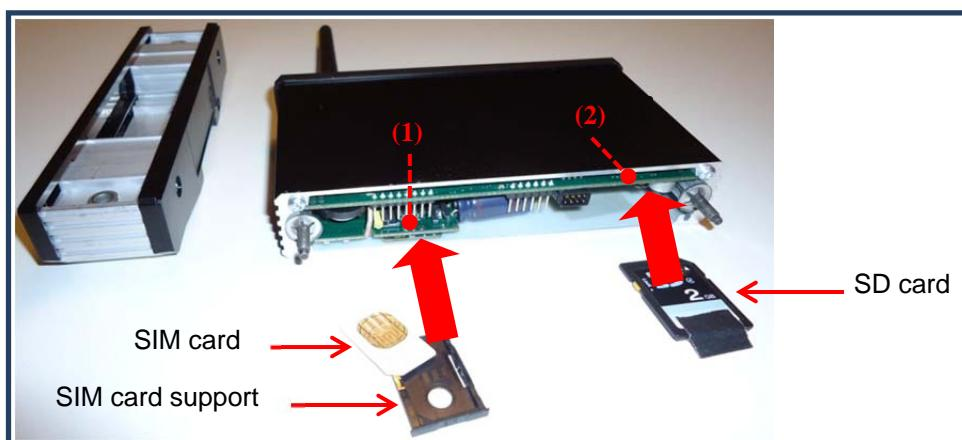

Figure 1
- 3) Insert the SD card containing the configuration file in (2) (figure 1), press it as far as possible, so that it does not exceed the Module.
The SD card is difficult to remove. You will need a pair of long-nosed pliers or to stick a sticker to get a hold of the SD card (see Figure 1).
- 1) For the GPRS module, mount the antenna supplied with the TAC4 GPRS module and install the SIM card (not supplied) (see (1) Figure 1).